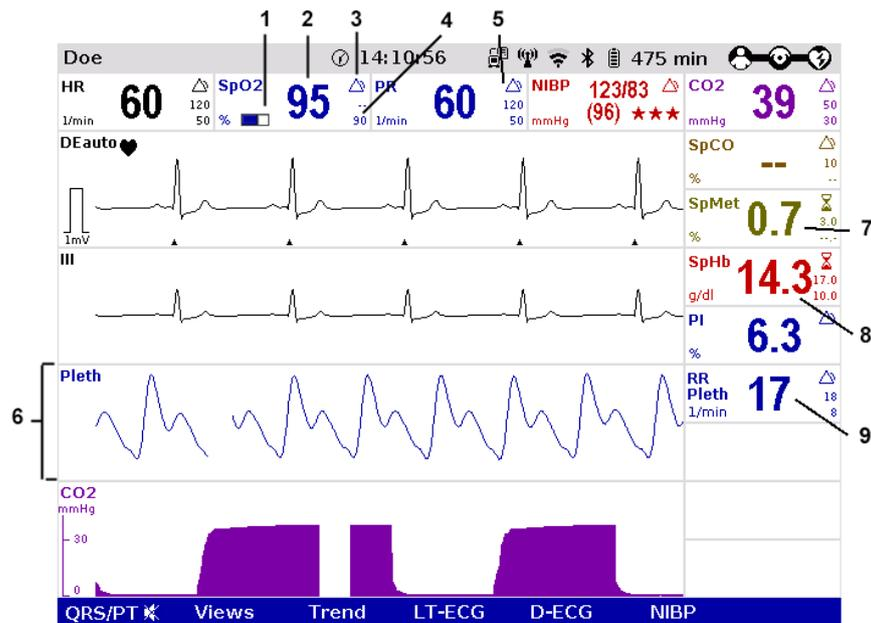

Fig. 6-21 Oximetry monitoring, configured screen (illustration may differ)
The signal intensity is a quality criterion for the capturing of measurement values. The signal intensity is measured and displayed as a horizontal bar in the parameter field SpO₂ (see page 129 Fig. 6-21, item 1).